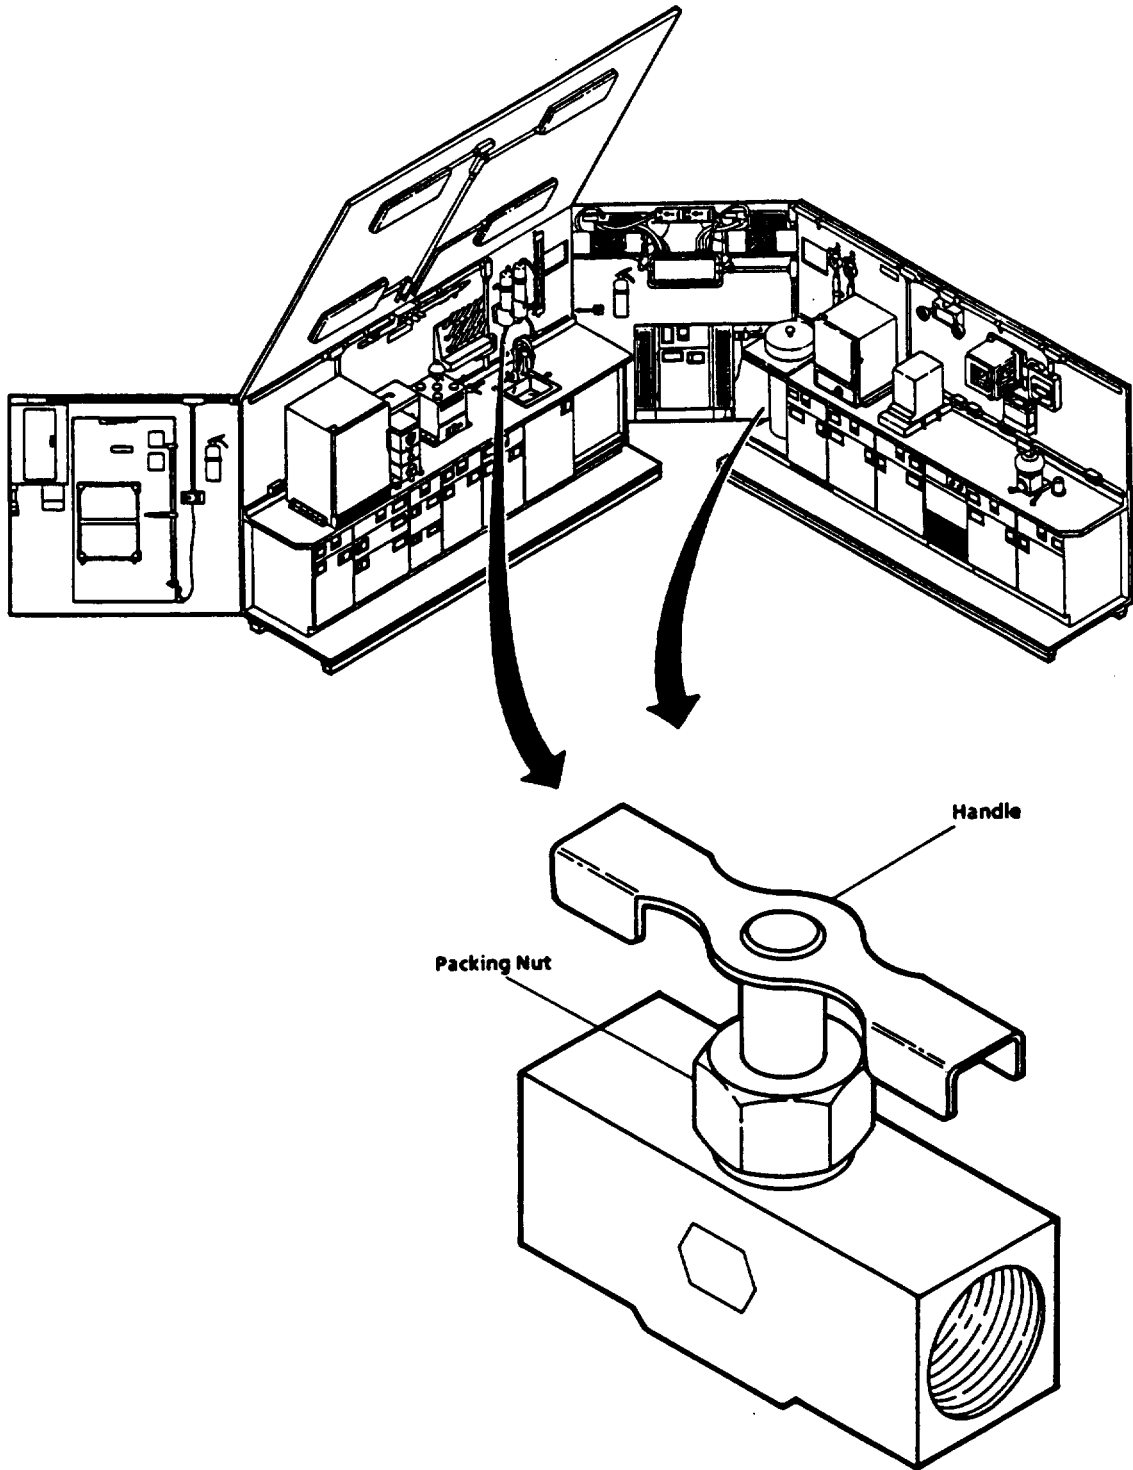

Figure 5-2. Needle Valve
1. Install Needle Valve. (Figure 5-2).